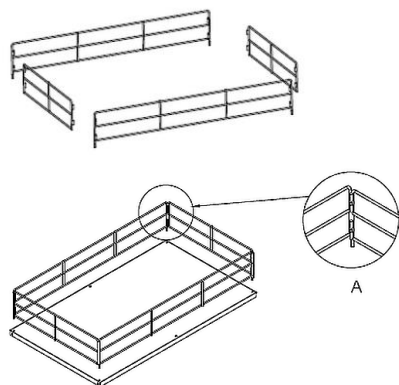

Fig. 1
1. Primeiro, monte as grades na prateleira superior. Conecte as barras usando os pinos (fig. 1 A).